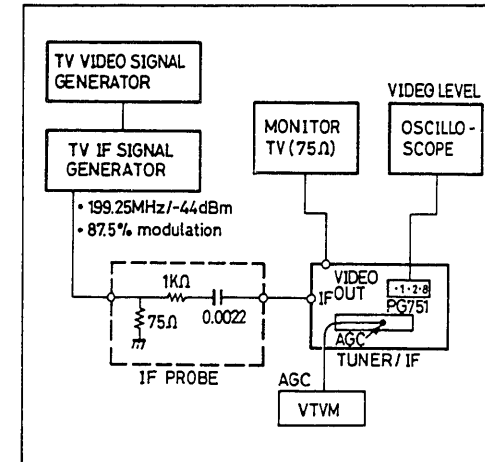

Fig. 15 Video Level/AGC
- 2) Adjust the AFC control (L806) as shown in Fig. 15.